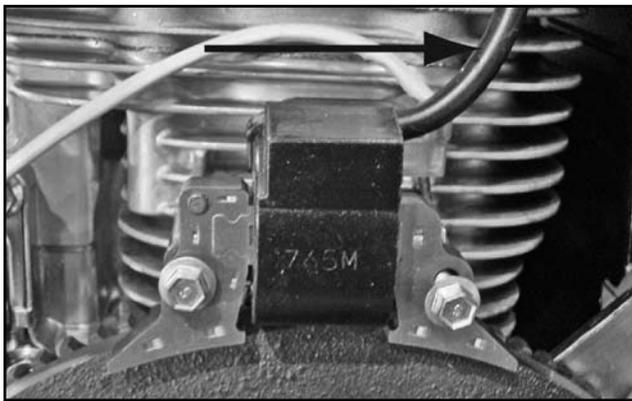
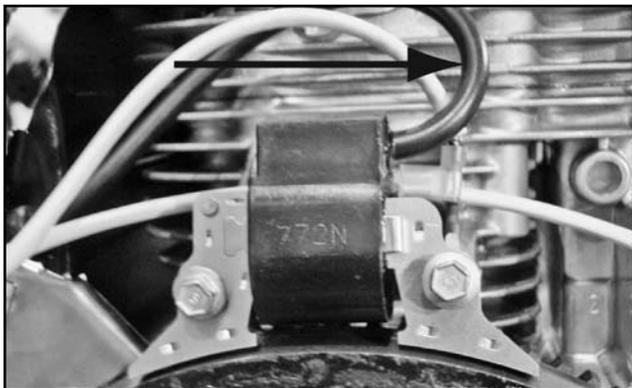

Figure 36. Cylinder One (Back, Short)
Figure 37. Cylinder Two (Front, Long)
3. Cylinder one is the back cylinder (Figure 36) and cylinder two is the front cylinder (Figure 37).